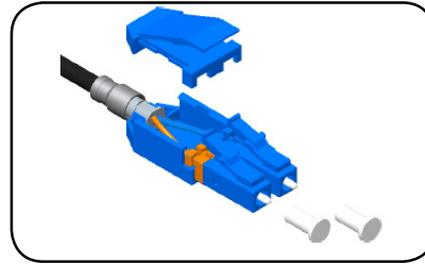

Figure 1
**Step 1:** Remove the top half of the body by prying the bottom half sides apart (**Figure 1**).